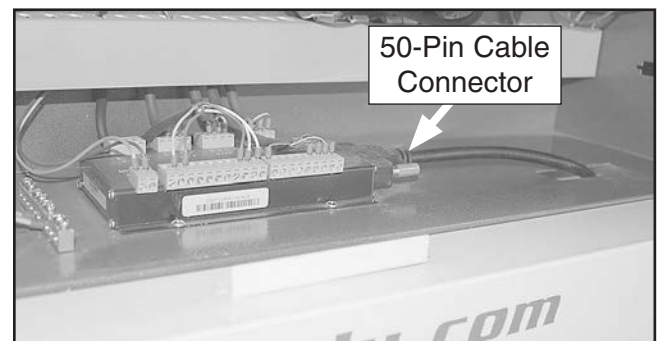

Figure 13. Hand-held controller connections.
1. Connect 50-pin cable to controller module in electrical cabinet, then route cable through hole in cabinet floor (see **Figure 13**).